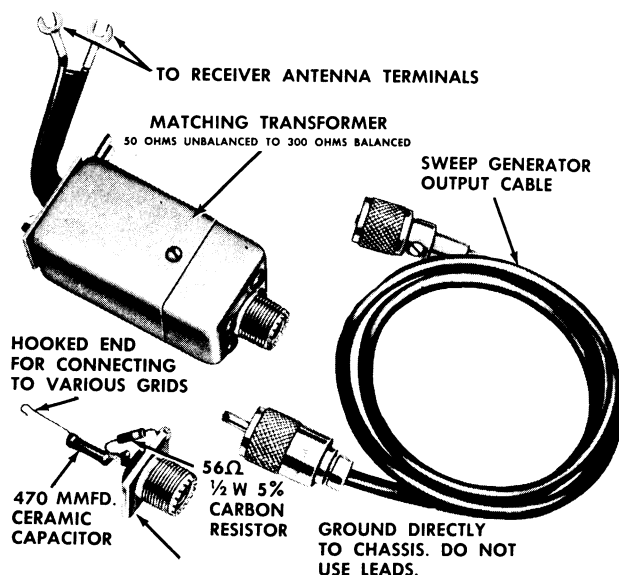
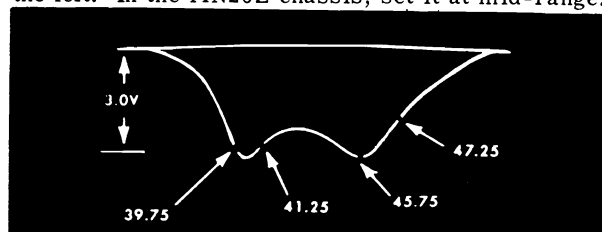
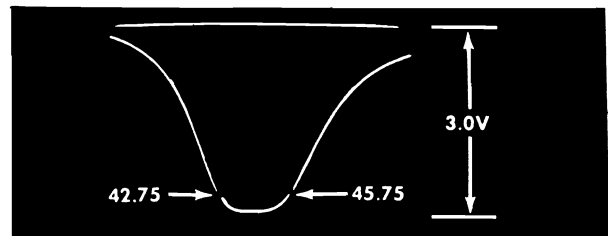

Fig. 1 Alignment Fixtures for RF-IF Alignment.
Fig. 2. 4th IF Response
Fig. 6 4th IF Response Curve.
3. Feed the sweep generator through a special terminating network as shown in Fig. 1. to Point "G" (Grid of the 3rd IF). Adjust generator to obtain a response similar to Fig. 2. with a detector output of 3 volts peak to peak. Do not exceed this level during any of the adjustments.
4. Set the marker generator to 45.75 Mc and alternately adjust the top and bottom cores of the 4th IF for maximum gain and symmetry with the 45.75 Mc marker positioned as shown in Fig. 2. The two peaks must be equal in height and the high frequency peak at 45.75 Mc. If the correct response cannot be obtained, check the position of the cores to see that they are not butted. The cores should be entering their respective windings from the opposite ends of the coils.
3. Feed the sweep generator through a special terminating network as shown in Fig. 1. to Point "G" (Pin 1 of the 3rd IF). Adjust generator to obtain a response similar to Fig. 6. Do not exceed the 3 volt peak to peak detector output during any of the following adjustments.
4. Set the marker generator to 45.75 Mc and alternately adjust the top and bottom cores of the 4th IF for maximum gain and symmetry with the 45.75 Mc and the 42.75 Mc markers positioned as shown in Fig. 6. If the correct response cannot be obtained, check the cores to see that they are not butted but are entering their respective windings from the opposite ends of the coil.